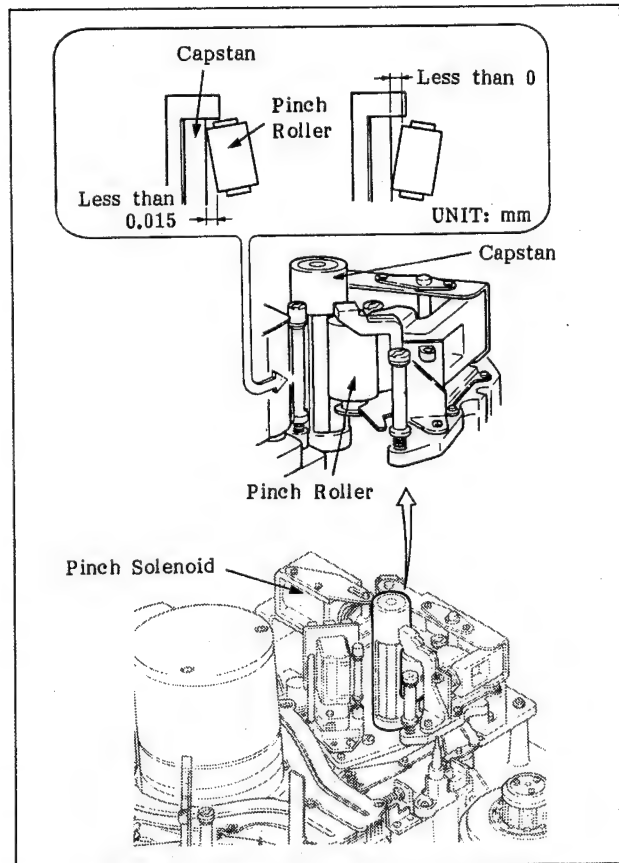
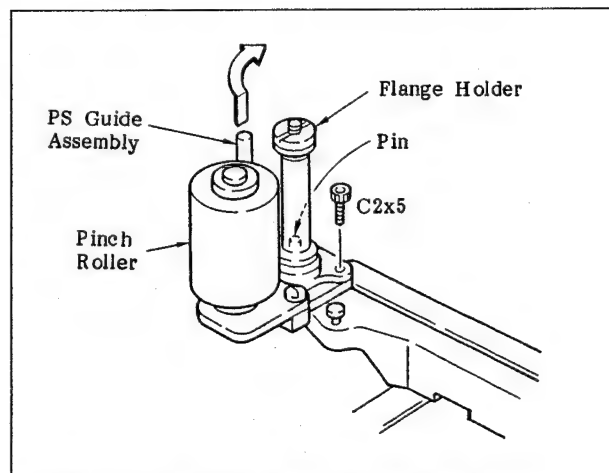

Fig. 6-90 Check the Pinch Roller Zenith
Fig. 6-91 Movement of the PS Guide Assembly
- b. Press the **F3** (C), **4**, **SET**, **F6** (F), **2**, **SET**, and **<** keys on the control panel in that order to set the machine in the threading status without loading the cassette tape.
- c. Press the **F6** (F), **3**, and **TEST** keys on the control panel in that order. Then press the **<** + **>** keys to push the pinch roller against the capstan once and then to separate them.
- d. Bring the pinch roller close to the capstan slowly by pushing the pinch solenoid by a hand. Check that the inclination of the pinch roller and the capstan meets the specification shown in Figure 6-90 when the pinch roller starts to rotate. When they do, go to step k. If they do not, make the following adjustments.
- e. Press the **F6** (F), **2**, **SET** and **>** keys on the control panel in that order to set the T arm in approximately a half-threading condition.
- f. Remove the set screws (C2x5) that hold the PS guide assembly and move the assembly in the direction of the arrow, as shown in the figure. (Figure 6-91)